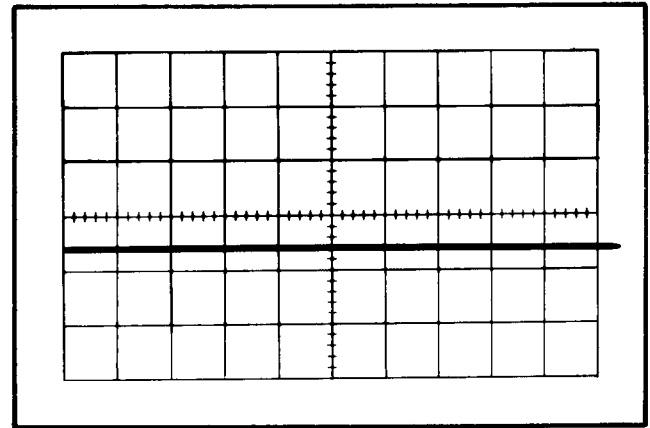

Fig. 6-32. Typical CRT display when checking attenuator isolation ratio and amplifier crosstalk ratio.
e. CHECK—CRT display for 0.1 division deflection, or less (attenuator isolation ratio 10,000:1 or better; see Fig. 6-32).
j. CHECK—CRT display for 0.1-division deflection or less (attenuator isolation 10,000:1 or better; see Fig. 6-32).